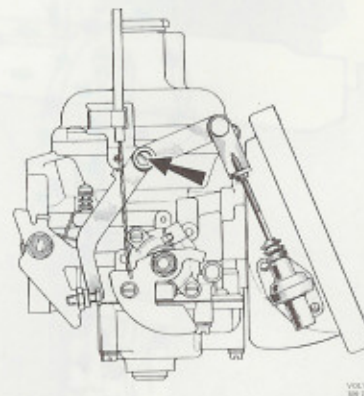

Fig. 21-3. Remove from the carburettor the hot start valve control
6. Remove the upper part of the air cleaner and lift out the insert. Remove the hot-start valve control from the rear carburettor, Fig. 21-3. Remove the air cleaner retaining bolts and lift off the cleaner housing. Cover over the intake on the carburettors.